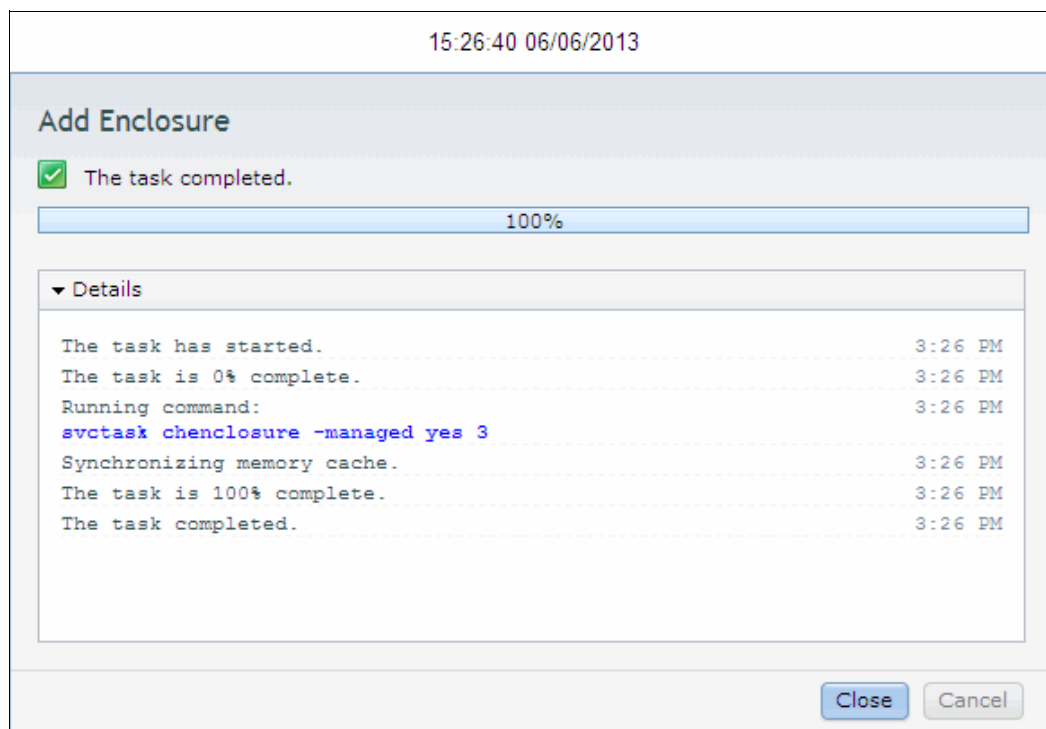

Figure 2-47 Add new enclosure task completion
- The task to add the new enclosure runs and completes, as shown in Figure 2-47. Click **Close**.